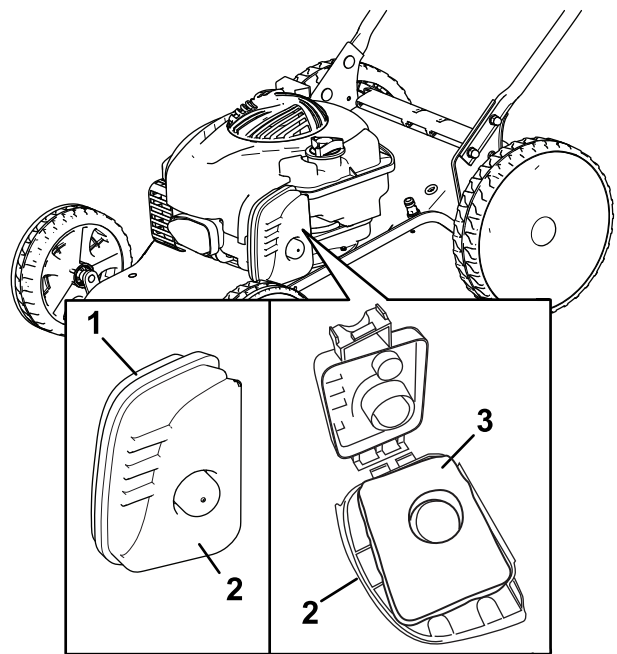

Figure 23
2. Remove the air-filter cover (Figure 23).
1. Unclip the top of the air-filter cover (Figure 23).